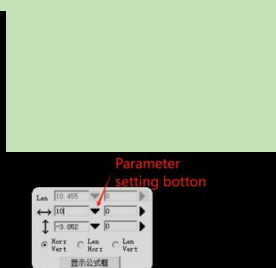
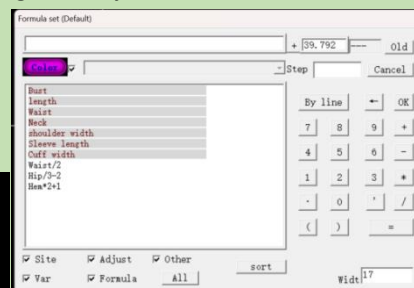

Figure4-56
Figure4-57
2.Quantitative modifications can be made as needed. ( Figure4-56 ) , Parameters can also be modified. ( Figure4-57 ) 。